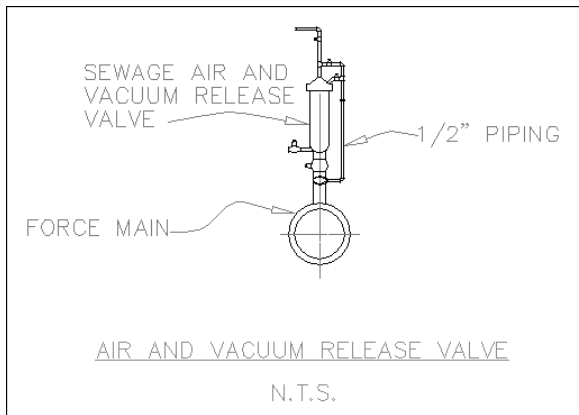

Figure 13-8: An air and vacuum release valve.
2. Save the file as ab13-02.dwg in your AutoCAD Bible folder. This is an air and vacuum release valve, as shown in Figure 13-8.